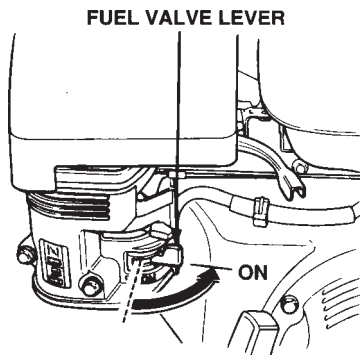

Figure 14. Fuel Shut-OFF Lever
1. Place the fuel valve lever (Figure 14) in the **ON** position.